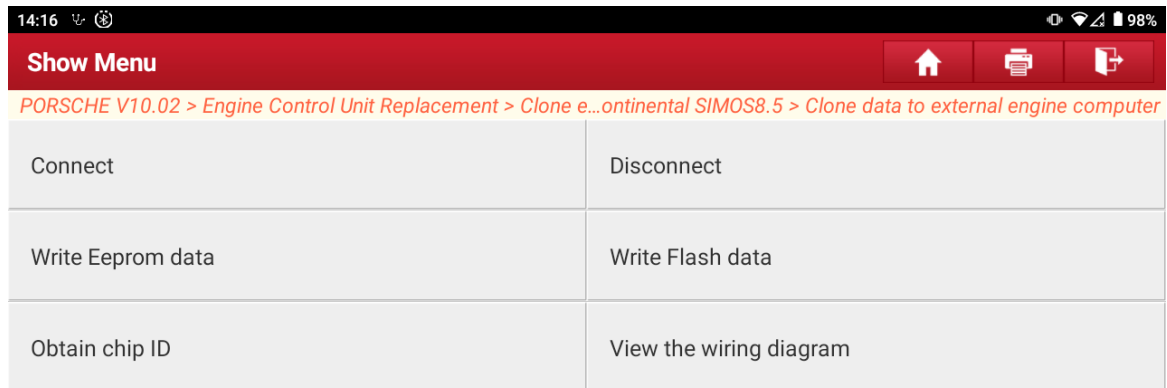

Figure 15
9. After the engine computer data of the original car is obtained, return to the previous menu and choose [Clone data to external engine computer]. The current menu is shown in Figure 15.